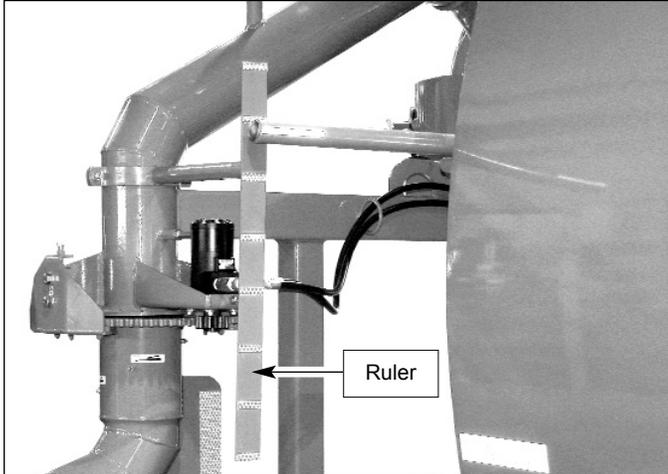

Fig. 25
- 5.1. Assemble the indicator on the bracket welded at the rear end of the tank. Assemble the ruler on the corresponding side arm - *fig. 25 and 26*.